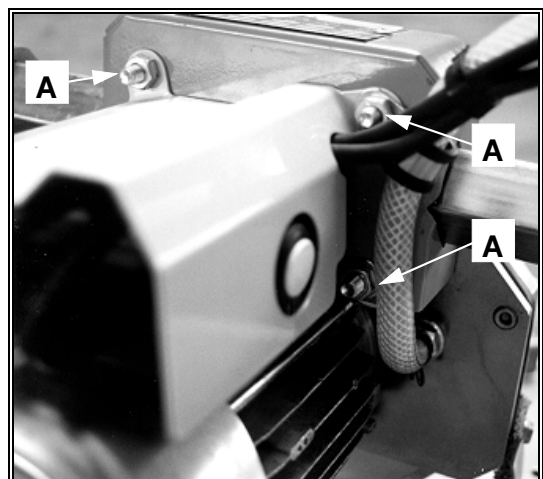

Fig.4.1
1. Release the two nuts (Fig.4.1-A);